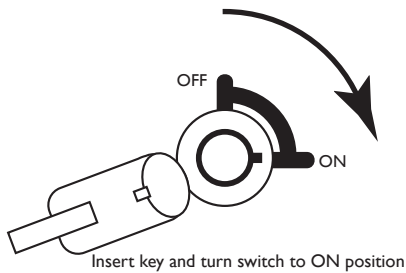
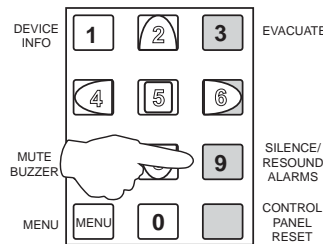

fig. 1
fig. 2
3. Only when it is safe to do so should the alarms be silenced. Turn the “activate controls” keyswitch to the ON position (fig.1). The LCD display will change to show that the controls are now active. Now press SILENCE/RESOUND ALARMS, (fig.2). Pressing this button again will cause the alarms to resound.